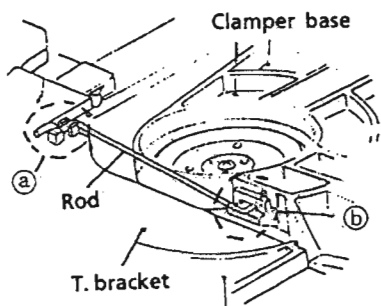

Fig. 2-2
2. Remove the rod from both ends' hooks which are secured on T.Bracket (a) and clamber base (b). (See Fig. 2-2.)